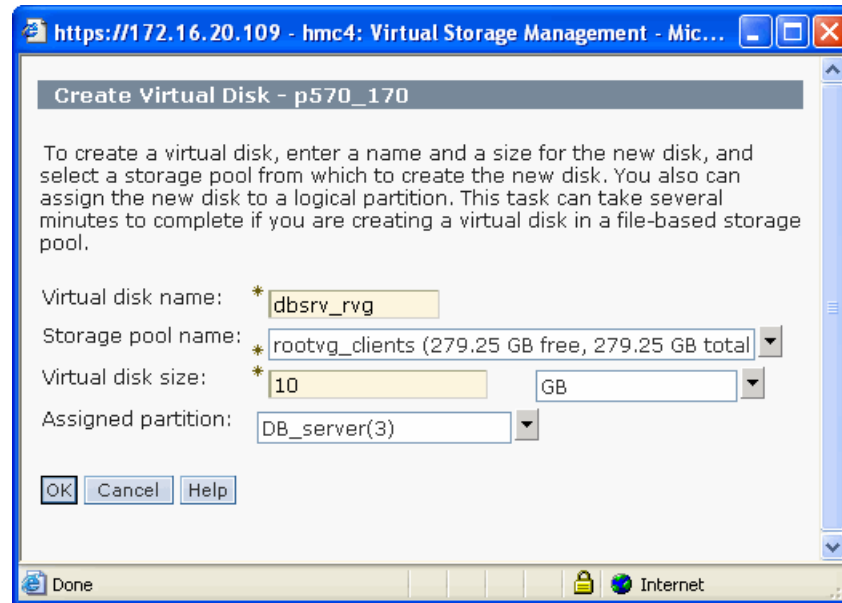

Figure 16-13 Creating a virtual disk using the HMC
5. Change to the **Virtual Disks** tab and start creating the virtual disks by clicking the **Create virtual disk** button. A window as shown in Figure 16-13 on page 475 will appear. You have to define the name of the virtual disk in the **Virtual disk name** field. Then select in which storage pool the virtual disk will be created by using the **Storage pool name** pull down menu. The size of the virtual disk is specified in the **Virtual disk size** field.
Figure 16-13 shows the creation of a 10 GB virtual disk called `dbsrv_rvg` that will be assigned to partition `DB_server`.